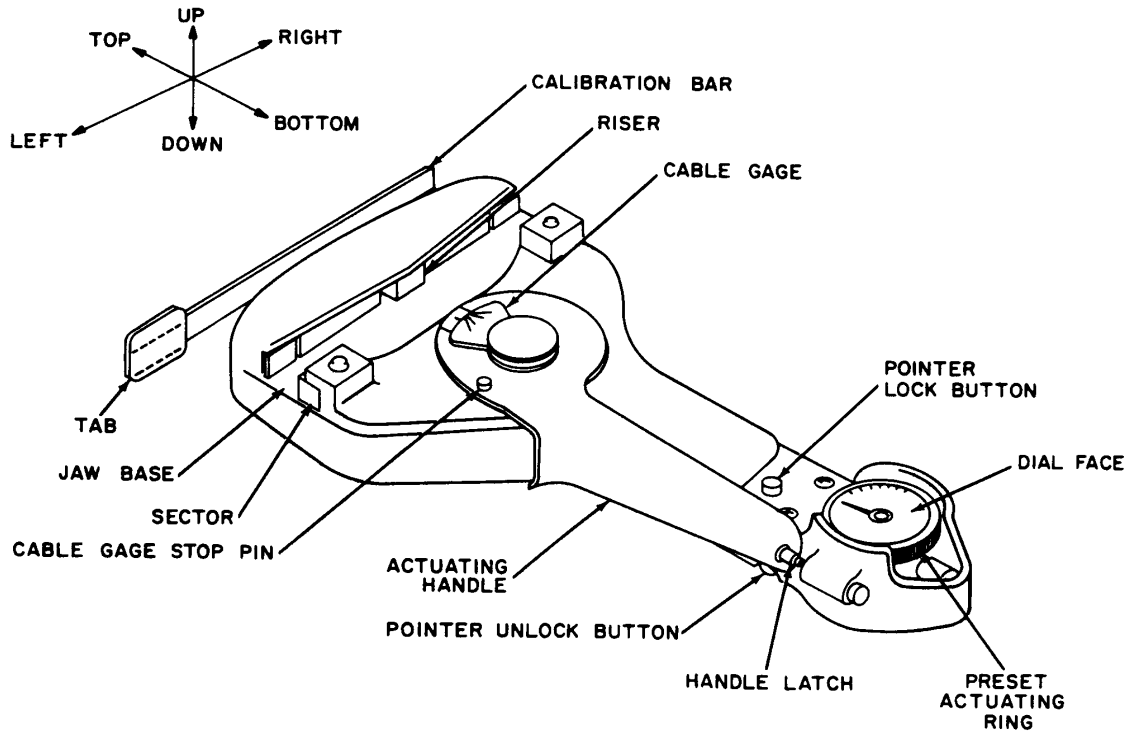

Figure 1. Dial indicating tensiometer (typical).
- c. Rotate cable size-gage ccw against stop pin (fig. 1).
- e. Compress TI actuating handle and insert calibration bar into jaws with calibration bar tab to left (fig. 1).
The actuating handle is retained by a handle latch. When actuating handle is compressed, handle latch is automatically released downward. To relatch, compress handle against side of frame and push handle latch upward into detent in actuating handle. Then slowly release hand compression (fig. 1).
- (1) Rotate knurled rim of indicator dial on TI until pointer indicates the cable diameter being used.
- (2) Rotate cable size-gage on TI ccw against the stop pin.
- (3) Increase tension on cable by adding weights from balance weight sets or standard weight set (A1, A2, or A4) to hanger assembly until total weight (tare weight plus added weight) equals 25 pounds.
- (4) Apply TI to cable (B1) by compressing actuating handle and making certain that cable is aligned in the jaws and against jaw base (fig. 1).
- (5) Slowly release compression until riser block and sectors (fig. 1) are firmly gripping cable. Release compression entirely.